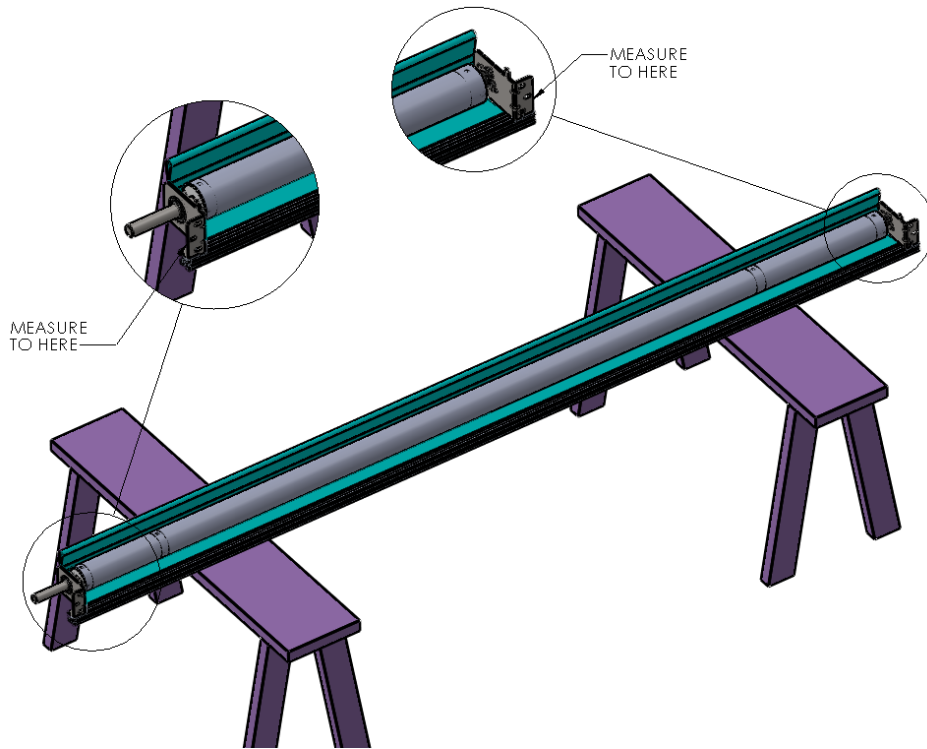

Figure 2 MEASURE DOOR HEADER WIDTH
2. Place the G1 Door roll Header Assembly across a safe and level work surface, then rotate the roll assembly frame so that the Header Bracket Mounting flanges are facing upward. (Figure 2 MEASURE DOOR HEADER WIDTH).
3. Measure the total width of the whole roll assembly from outermost edge of one Header Bracket's Mounting flange to the outermost edge of the opposite side. (Figure 2 MEASURE DOOR HEADER WIDTH)